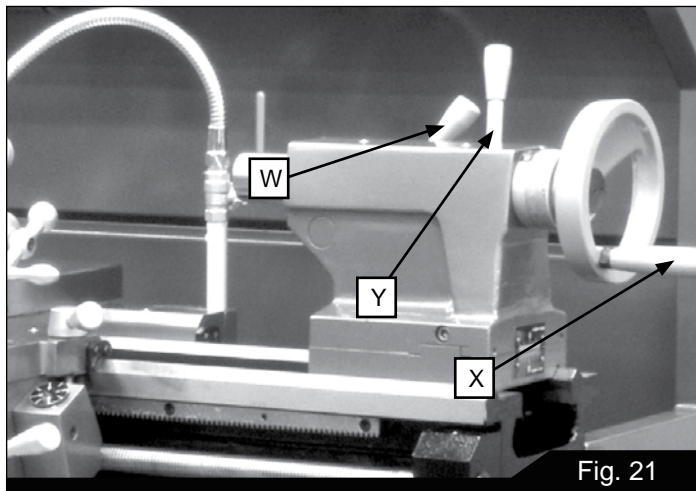

Fig. 21
15. **Tailstock Quill Clamping Lever (W, Figure 21):** Push forward to lock the sleeve. Pull backward to unlock.
16. **Tailstock Quill Traverse Handwheel (X, Figure 21):** Rotate clockwise to advance the quill and counterclockwise to retract it. Fully retract it to eject a center or drill chuck.
17. **Tailstock Clamping Lever (Y, Figure 21):** Lift up to lock. Push down to unlock.